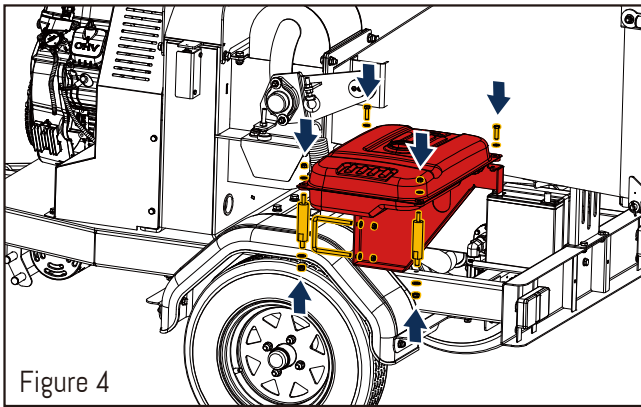

Figure 4
Attach the upper end of the fuel tank fixing plate to the chassis using a hex bolt (M8x35), flat washer (8), and lock nut (M8). (See Figure 4)